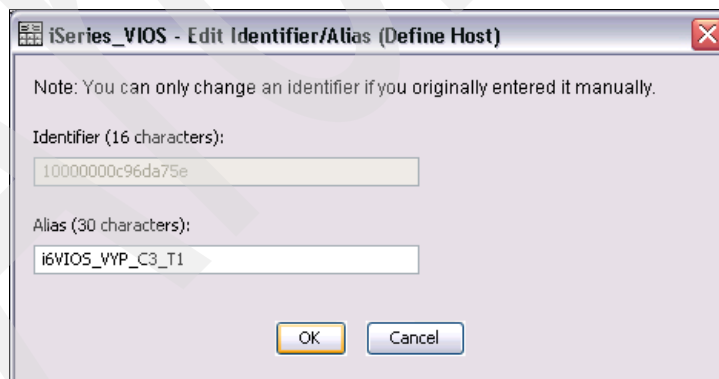

Figure 7-67 DS Storage Manager Edit Identifiers/Aliases (Define Host) dialog
- We specify an alias name for each of our VIOS partition's host ports using the hostname and adding a suffix describing the physical adapter location information that we retrieved earlier from the `lsdev` output in step 1, as shown in Figure 7-67.